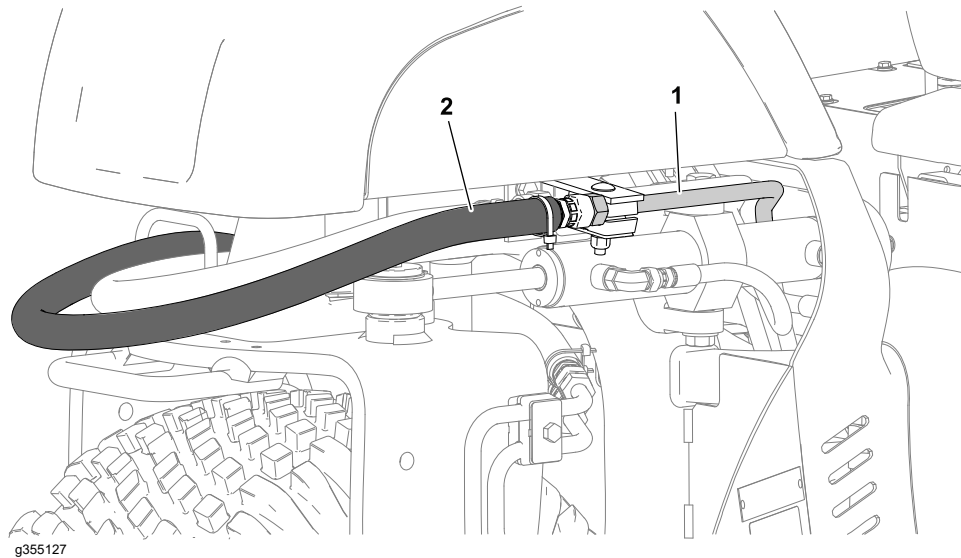

Figure 37
6. Clean the hydraulic hose and hydraulic tube above the front wheel; refer to Figure 37.